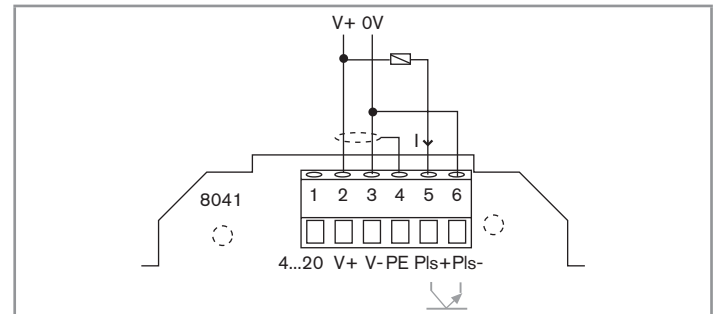

Fig. 22: Connection of the frequency output to an electromechanical counter or a relay
- or to a load such as an electromechanical counter or a relay (see Fig. 22),